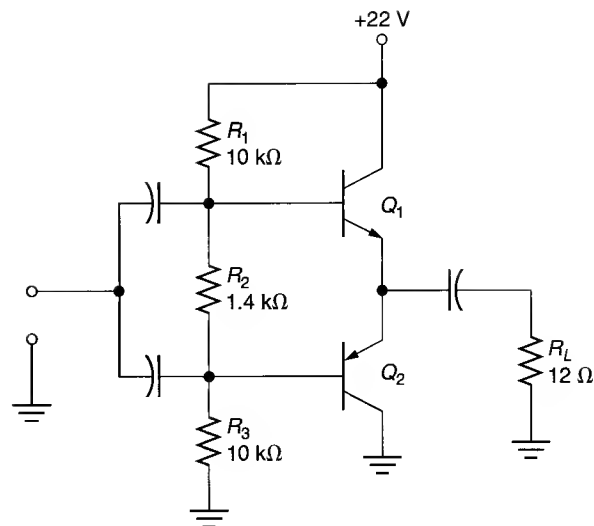

FIGURE 11.55
28. Calculate the value of P_S for the amplifier in Figure 11.55.
30. Calculate the value of $P_{L(max)}$ for the amplifier in Figure 11.55.
32. Calculate the maximum efficiency for the amplifier in Figure 11.55.